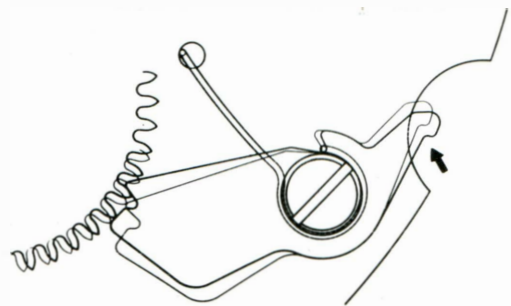

Fig. 3
- (3) The ratchet wheel position is contrary to conventional watches (same type as the alarm lower ratchet wheel of Citizen Alarm) is supported between the barrel and the plate. For this reason, the click is also positioned below the barrel and is directly screwed to the plate.
- (4) The click configuration is largely designed so the resistance and wear during automatic winding is small and as it extends its arm in the notch of the plate, handling is easy (Fig. 3).